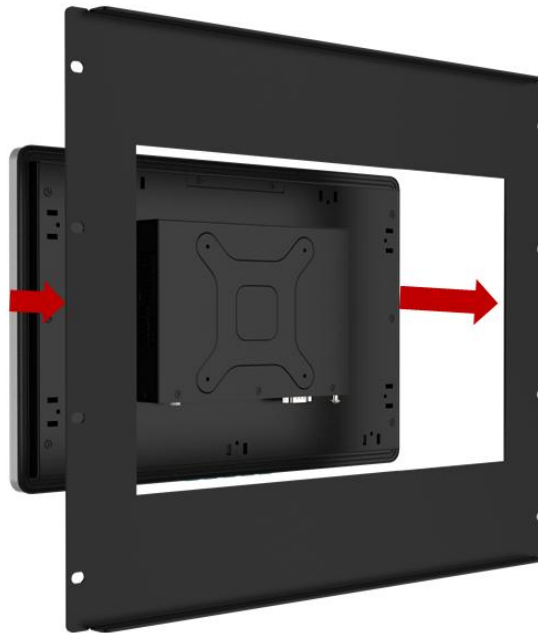

Figure 3-20: Machine mounted to panel
Step 3: Slide the AURA-xxx-RK3576 Series through the hole until the aluminum frame is flush against the panel (**Figure 3-20**).